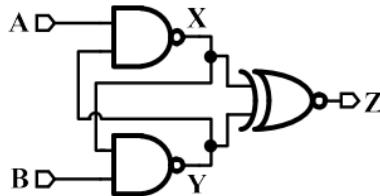

Fig. 3.17
30. In the circuit diagram shown below in Fig. 3.17, the logic gates operate with a supply voltage of 1V. NAND and XNOR have 200ps and 400ps input-to-output delay, respectively.